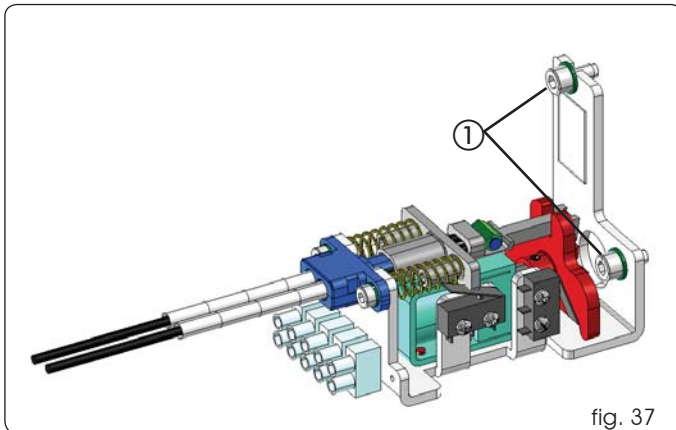

fig. 37
Install the motor lock, using the supplied screws as shown in Fig. 37 ref. ①.